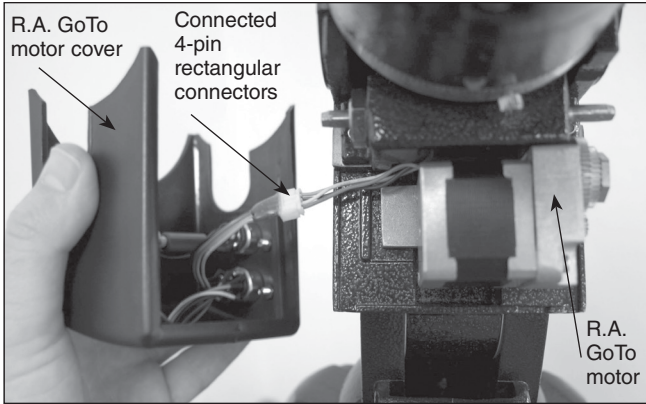

Figure 7. R.A. GoTo motor wiring
R.A. GoTo motor. Once connected, the wiring of your R.A. GoTo motor should resemble **Figure 7**.